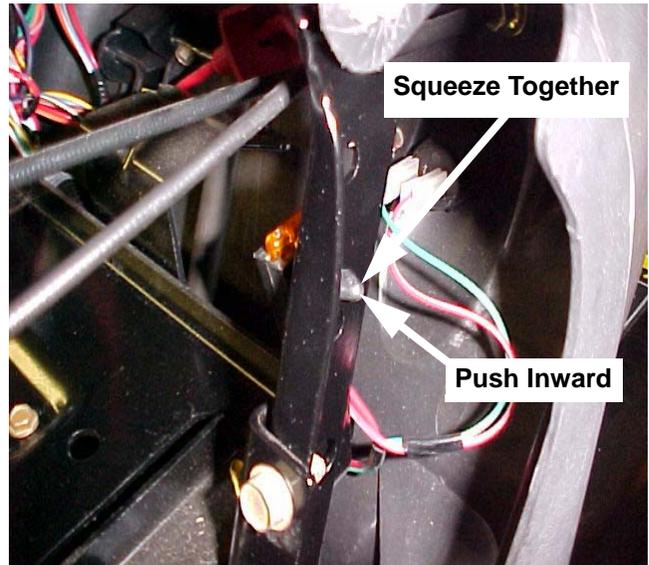

FIGURE 11
15. Using a pair of pliers, remove the fuse holder from the LH dash support. See Figure 11.